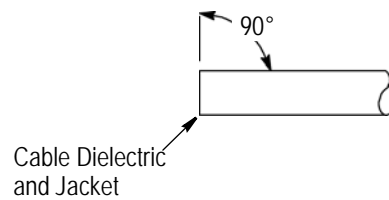

Figure 3
1. Trim the cable end square, as shown in Figure 3.